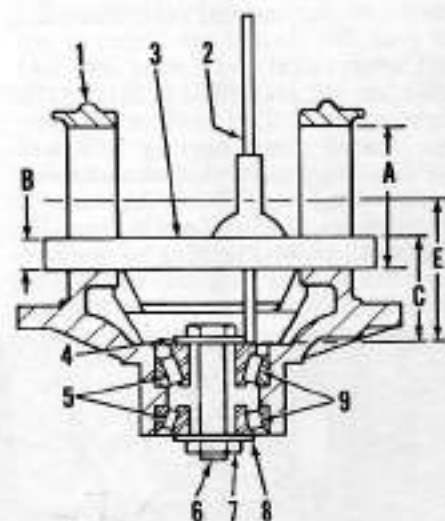
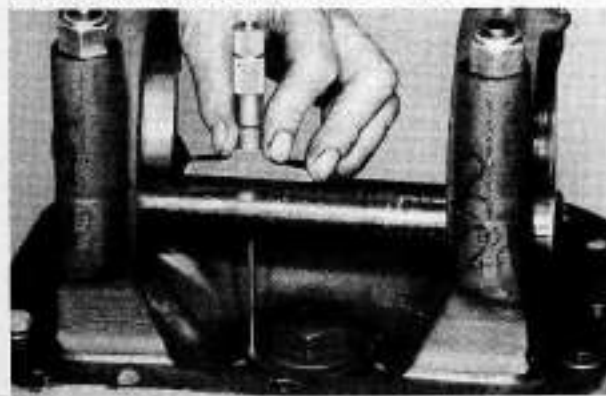

Fig. 28—Diagram showing method of securing pinion bearings in support housing to allow depth gage measurement to be taken.
Fig. 29—View showing proper depth gage and pinion shaft placement used in determining pinion shaft protrusion.
31. To set pinion shaft bearing preload first install bearings and cups (12 and 15-Fig. 24) in carrier and use bolt, flat washers and nuts as shown in Fig. 28 to hold bearings in position. Tighten bolt and nut until bearing cones are slightly difficult to turn.
Install bearing caps on carrier and tighten to 203 N·m (150 ft.-lbs.) torque. Measure and record diameter of carrier bearing surface. Place a 25 mm diameter shaft having a cross hole drilled through it across bearing bore as shown in Fig. 29. Using a depth gage measure from top of shaft to face of inner bearing cone (Fig. 28) and record measurement.
To find correct thickness of shims (11-Fig. 24) subtract 25 mm (diameter of shaft) from measurement of depth gage (C-Fig. 28). Add this to one-half the diameter of carrier bearing bore
(A-Fig. 28), then subtract dimension etched on pinion shaft gear end if it is a minus (-) dimension or add if it is a plus (+) dimension (this dimension is in millimeters), for result. This dimension will be correct shim (11-Fig. 24)
thickness to install to properly set pinion shaft protrusion. See Fig. 28.